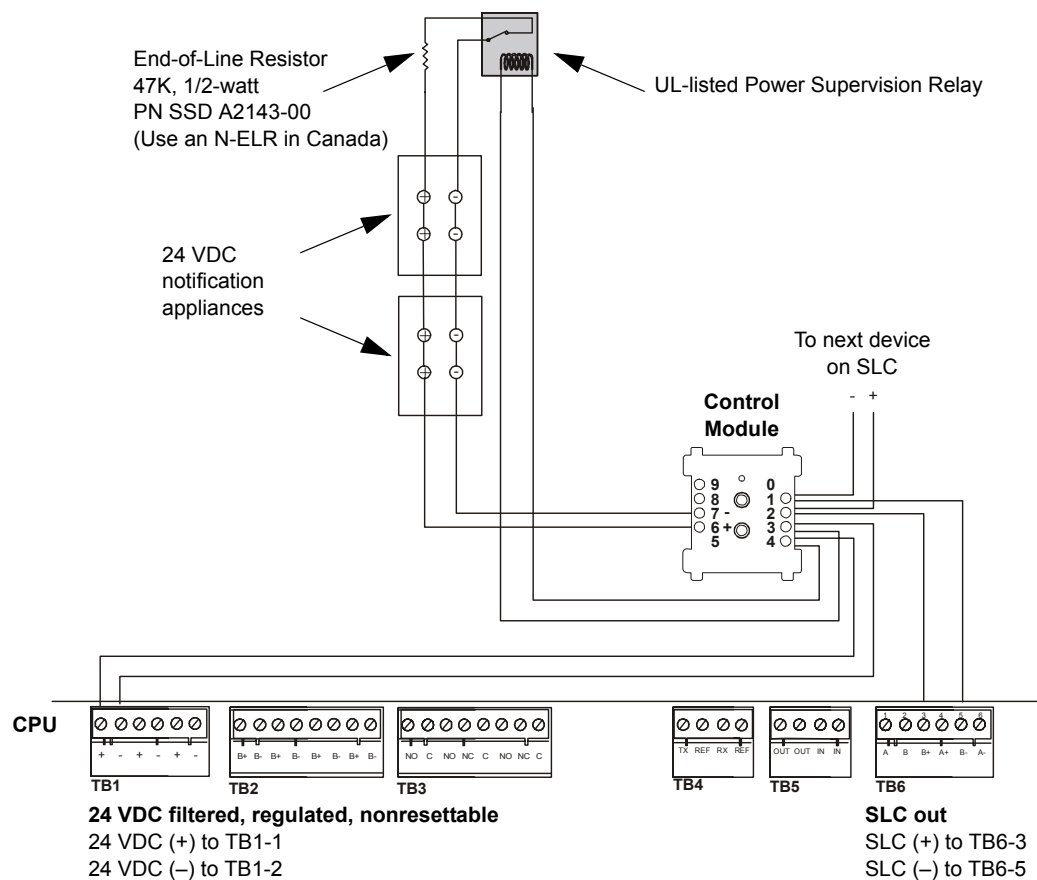
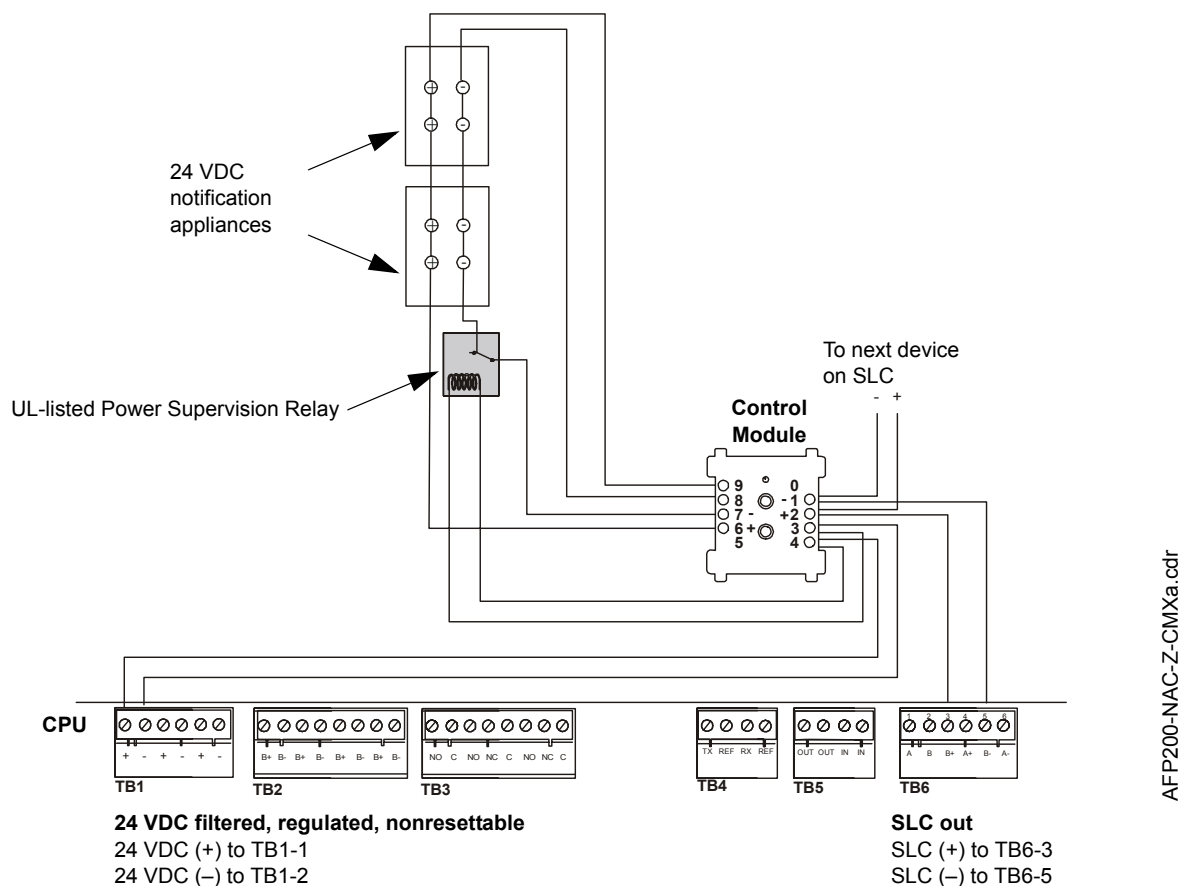

Figure 40 Typical Wiring for an NFPA Style Y NAC
Figure 41 NFPA Style Z Notification Appliance Circuit
This section contains instructions and wiring diagrams for wiring a control module to polarized alarm notification appliances. Figure 40 provides a diagram for two-wire appliances wired according to NFPA Style Y NAC. Figure 41 provides a diagram for four-wire appliances wired according to NFPA Style Z.
Figure 40 shows a supervised and power-limited NFPA Style Y NAC using a control module. This shows polarized alarm notification appliances connected to control modules in a two-wire configuration. A control module can control 3 A of resistive load (on non-coded electronic devices). Further rating information is available in the module document and data sheet. If installing more than one control module NAC, install the power supervision relay on the 24 VDC power bus after the last control module.
2. Connect 24 VDC power (Figure 40).
Figure 41 shows an NFPA Style Z NAC with notification appliances connected to a control module.